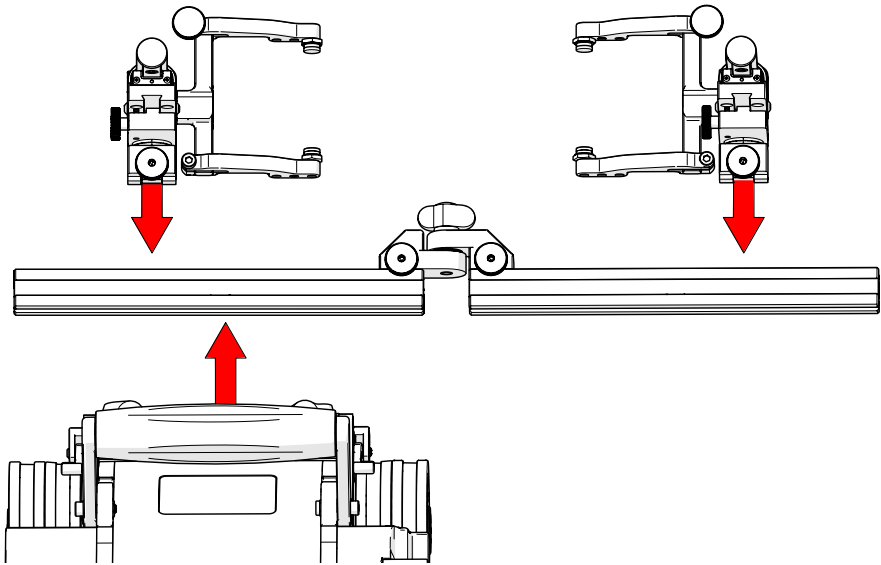

Fig. 171 - Configure assembly and mount to SK00T
1. Disassemble the pivoting probe holder frame to achieve the setup shown (Fig. 171). Ensure proper placement of the frame bar with attached mounting point in relation to the **SK00T**.